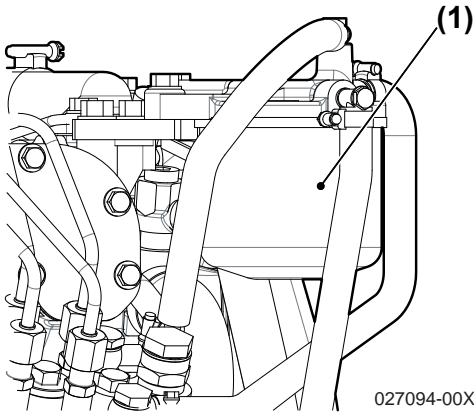

Figure 13
2. Remove the cartridge filter (**Figure 13, (1)**) with a filter wrench.